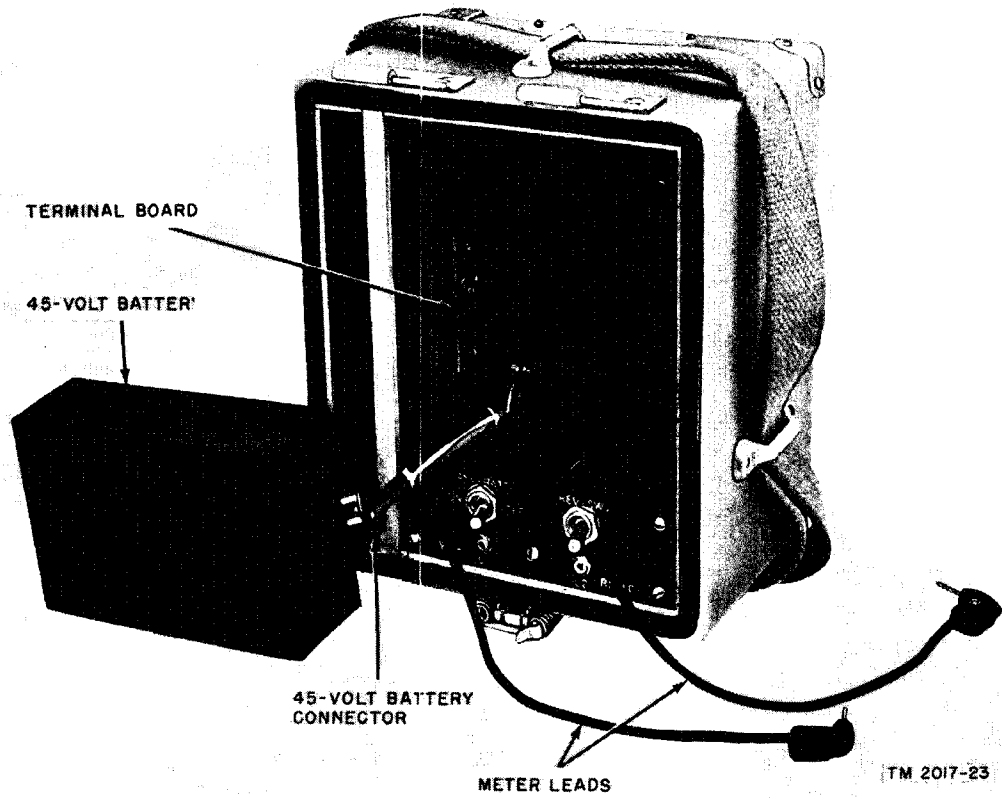

Figure 5. Test Set TS-26(\*)/TSM, meter panel assembly removed, connection for 45-volt battery.
*j.* Reach into the test set case and carefully lift out the 45-volt battery connector (fig. 5) and insert it into the 45-volt battery (BA-59).